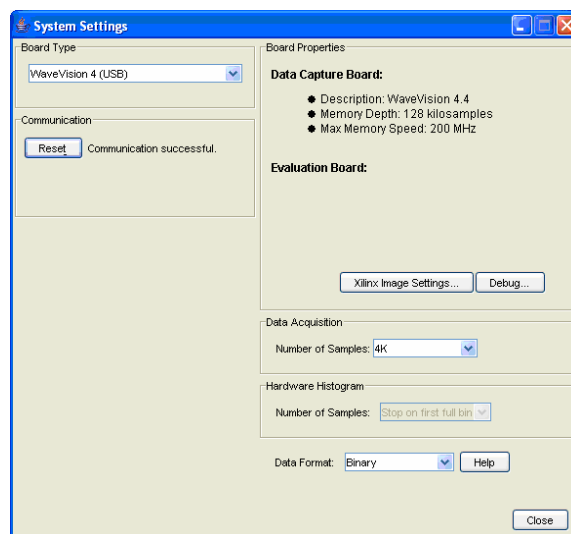

Figure 9: System Settings window
2. From the WaveVision main menu, go to Settings and then Capture Settings to open the System Settings window (*Figure 9*) and select the following: